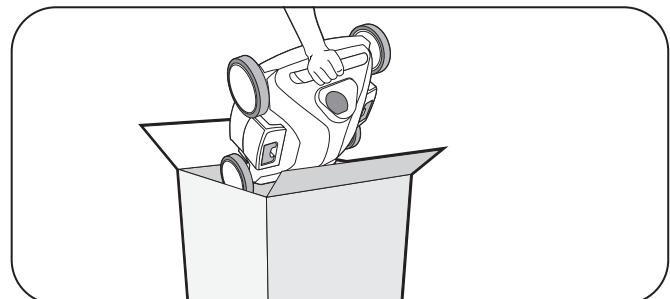

Figure 18. Long Term Storage for Extended Period
6. For extended periods, such as Winter months, store the cleaner in a box to keep motors, plastics and seals protected (make sure the cleaner is dry before storing) (Figure 18).